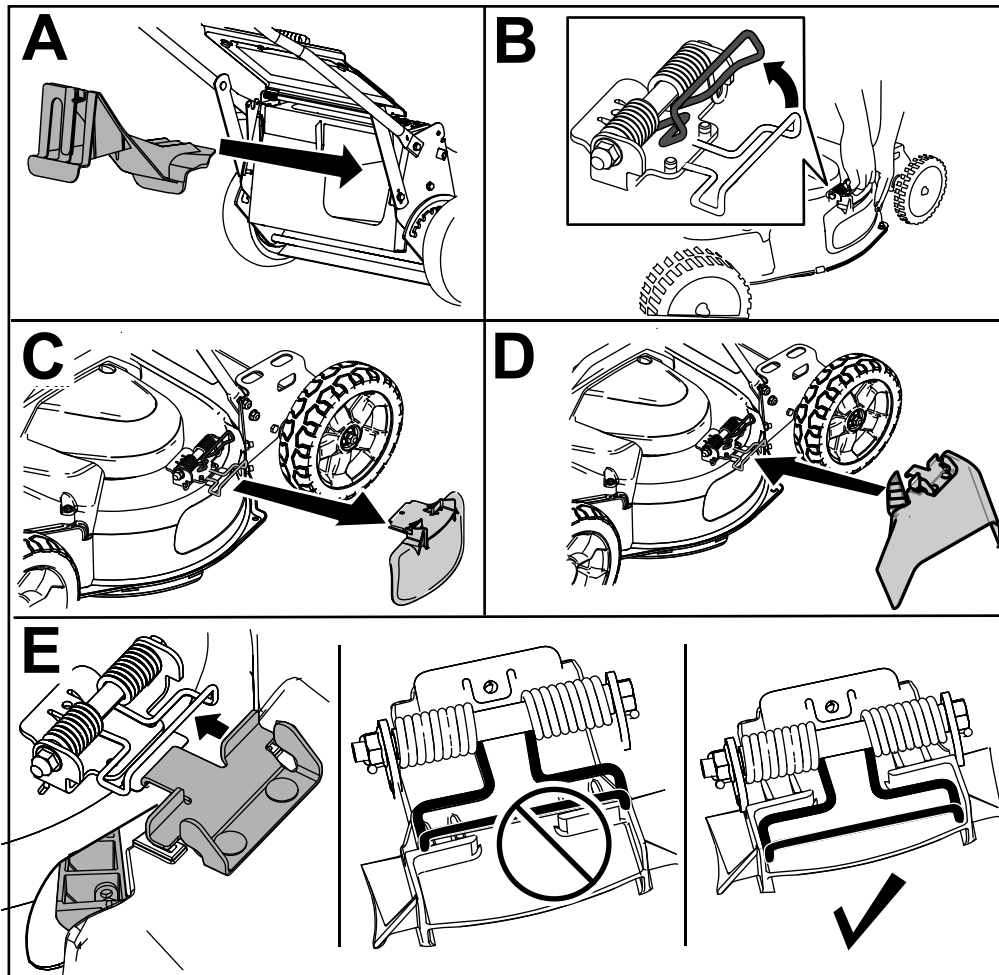

Figure 19
3. Insert the rear-discharge plug (A of Figure 19).
4. Remove the side-discharge deflector by pulling up on the spring that holds the deflector in place and removing the deflector (B and C of Figure 19).
5. Install the side-discharge chute by pulling up on the spring, placing the chute over the opening, and lowering the spring over the tabs on top of the discharge chute (D and E of Figure 19).